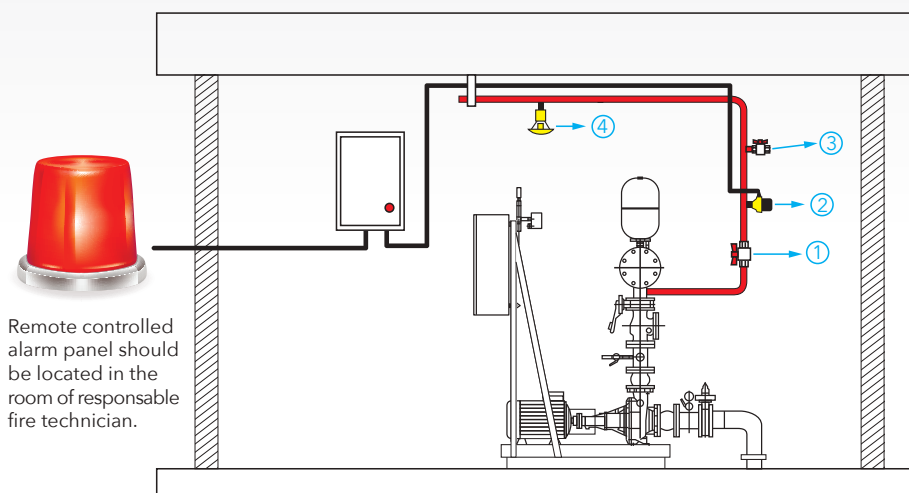

Figure 8.
There should be a sprinkler protection at the fire pump room (EN 12845). It would be appropriate that any sprinkler system in this room is supplied directly from the pump delivery collector. As shown in Figure 8, the sprinkler supply line should be taken immediately after the pump supply line and check valve. Over this line, a ball valve (1) and flow switch (2) should indicate the sprinkler (4) operation with an audio and flashing alarm in accordance with EN 12259-5 standard. This alarm system should be located in the control room. Using test and drainage valve (3), this system should be verified to operate (by opening the valve). Other end of the drainage valve should be connected to the reserve tank, and the water should be returned to the reserve tank during the test, which is performed by opening the valve. All the electrical devices to be used in this system should be of IP55 protection class. Why is the sprinkler system is located in the fire pump room is a frequent question. Diesel motors are used in various fire pump systems and these motors are provided with fuel. In a possible fire which may arise in the meantime, this standard is also referred for life safety of the worker in the room. Remember that the pumps in this location have electrical supply lines as well, any spark which may occur in this case is possible to cause a fire. Beyond that, a sprinkler system is a must in each location having flammable liquid or fuel. "Authorized personnel only" sign should be put on the pump room door, and this door should be locked, only the principal technician having the key. EN 12845 requires the weekly tests to be periodically and manually performed by the principal technician. Because the service technician will record and sign that they perform these tests and show this log and test performance to the authorities during fire department or municipality audits. As the building owner or building management is primarily responsible for these tests to be properly performed, they should constantly check this test log. Remember that irregular test performance and not keeping the system ready may cause life and property losses.